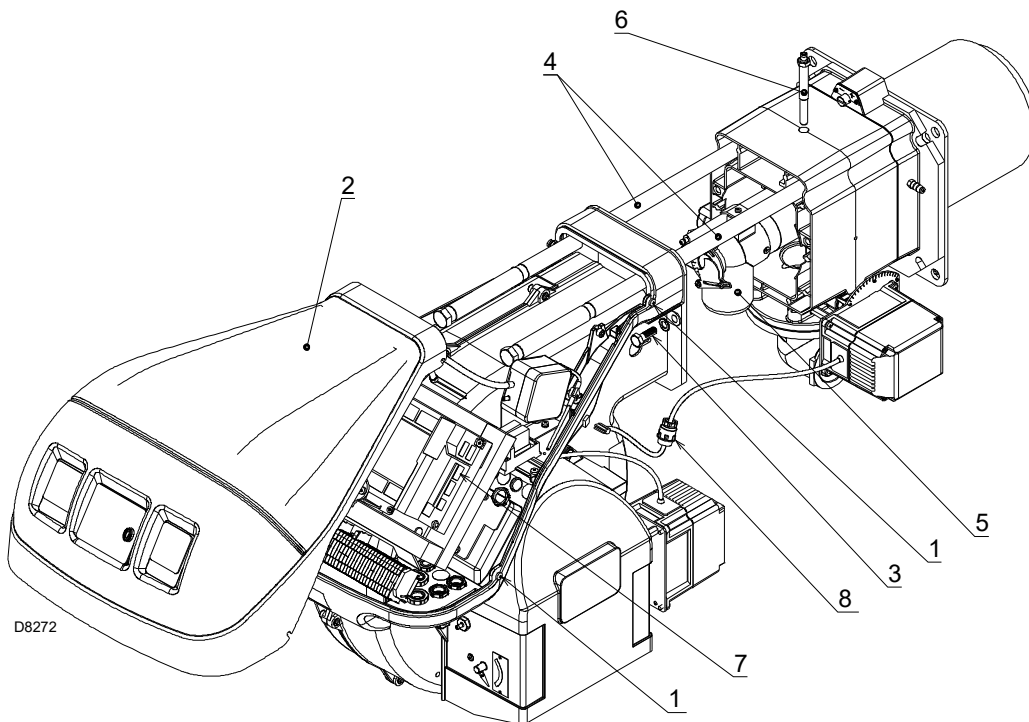

Fig. 37
Open the burner and make sure that all the components of the combustion head are undamaged, not deformed due to high temperature, free of ambient dirt or dust, free of rusted materials and adequately positioned. Make sure that the gas outlet holes for the start-up, on the combustion head distributor, are free of dirt or rust deposits. If in doubt, disassemble the elbow (Fig. 37 at page 53).
- Loosen the 4 screws 1)(Fig. 37) and remove the hood 2).
- Connect the servomotor plug 7)(Fig. 37) and tighten the cable grommet 8).